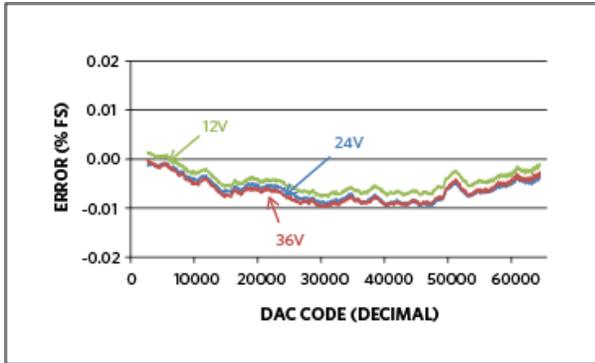

Figure 3. Transmitter error at 25°C. Data for the MAX5216 DAC.
A 4–20mA loop-powered transmitter evaluation (EV) kit, the MAX5216LPT, was built and characterized with a 1000ft 22-gauge shielded communication cable and load resistor of 249 $\Omega \pm 0.1\%$. The loop current was measured with an Agilent® HP3458A DVM as the voltage drop across that load resistor. The characterization data from the MAX5216 DAC are presented in **Figures 3 to 9**. Refer to the MAX5216LPT EV kit data sheet for more information about components and board layout.